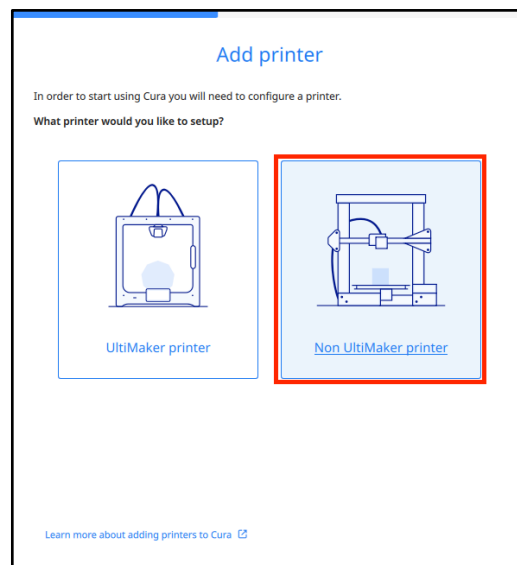

Figure 4: Adding a Printer
9. The 'Getting Started' panel prompts the user to add the first machine into UltiMaker Cura (See Figure 4).